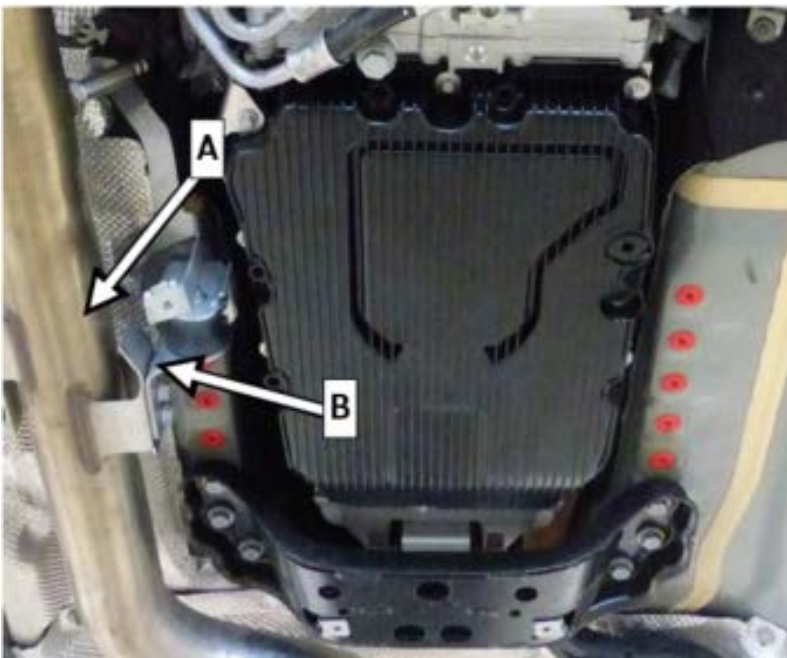

Figure 1 (example illustration on model 213 with OM654)
3. Remove exhaust system (A, Figure 1) from transmission bracket (B, Figure 1).